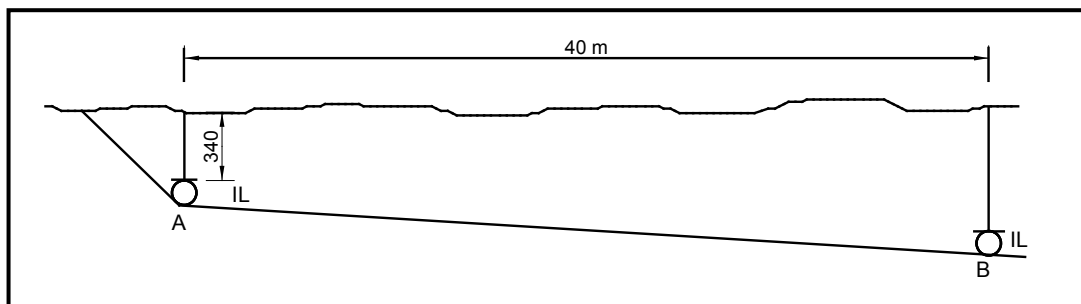

FIGURE 3.8
3.8 FIGURE 3.8 below shows a sewer pipeline that must be laid. The minimum soil cover of the pipeline at A is 340 mm. The pipe has a diameter of 110 mm and the pipeline is 40 m long.